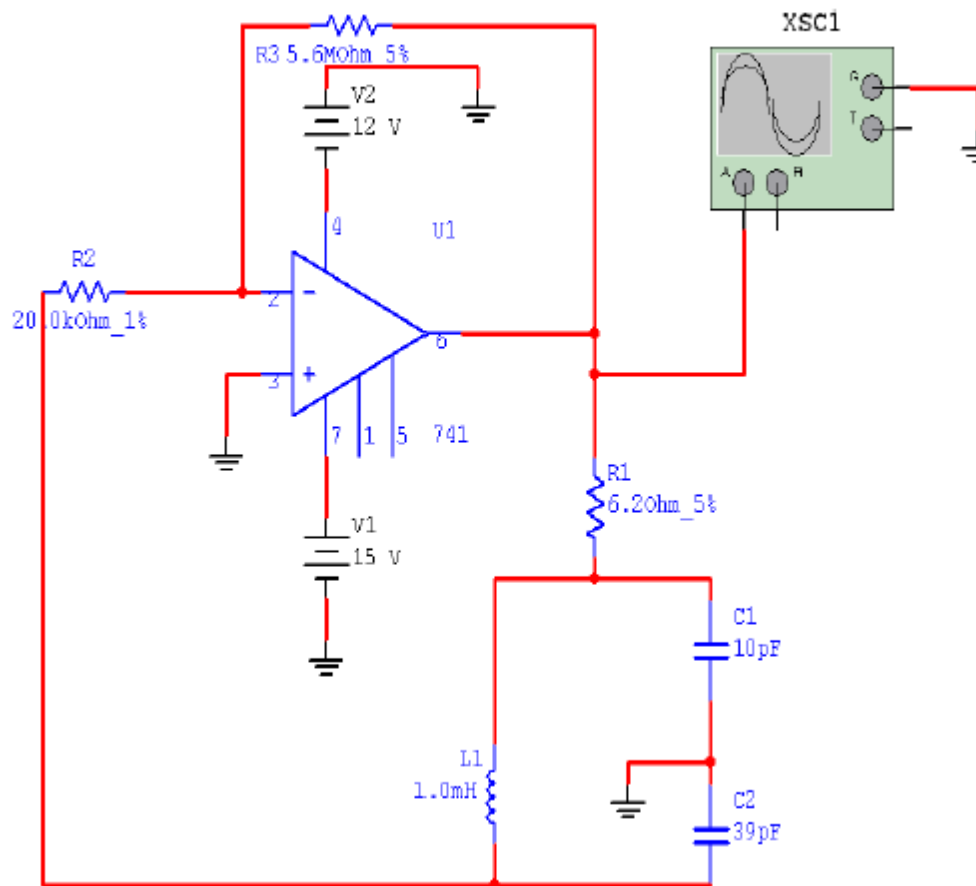

Fig.9 Colpitts Oscillator
- Construct the circuit shown in Fig.9.